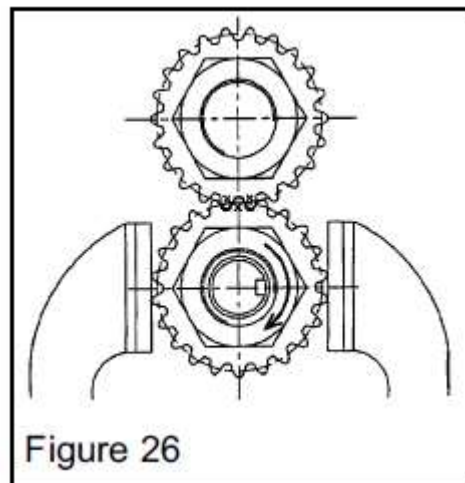

Figure 26
d) Tighten both nuts to correct torque. DO NOT wedge the rotors to prevent shafts from turning - hold each gear in turn in a vice with soft jaws as Figure 26.